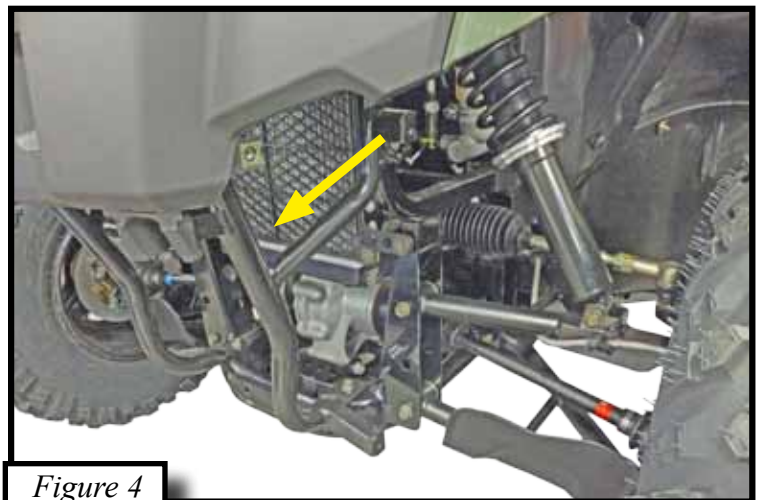

Figure 4
5. Set mount channel (Item #3) into location shown in Figures 4 & 5.